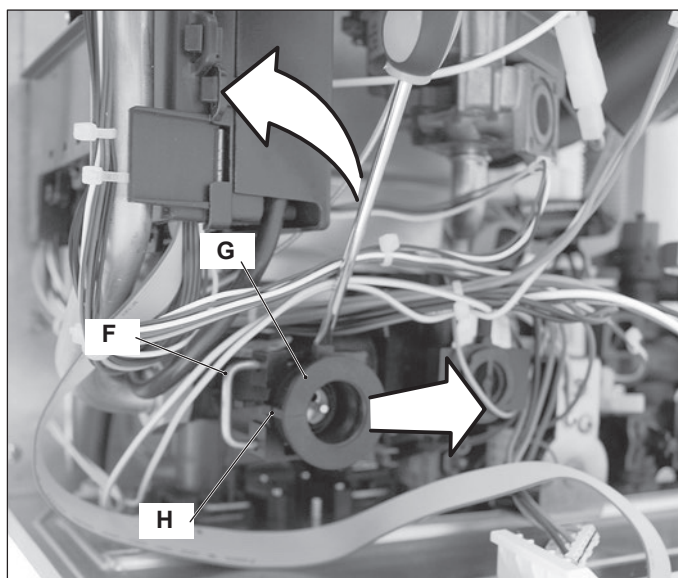

Figure 8.5
- 4 Remove the fixing spring "F" (Figure 8.5)
- 5 Remove the three way diverter valve "G" by levering with a screwdriver in as shown in Figure 8.5.
Attention. When reassembling the three way diverter valve be sure that the three way diverter is correctly oriented by matching the reference "H" with the notch of the water group Figure 8.5.